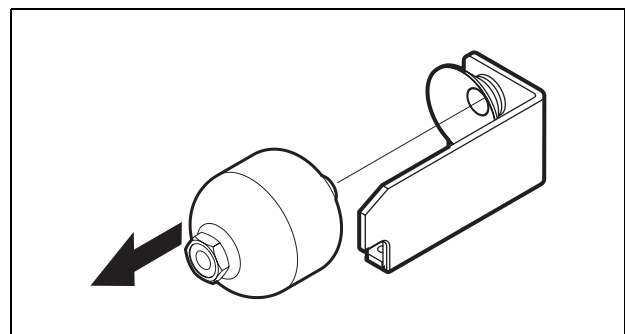

Fig. 35 Remove the accumulator
5. Remove the accumulator from the accumulator bracket. *See Fig. 35.*